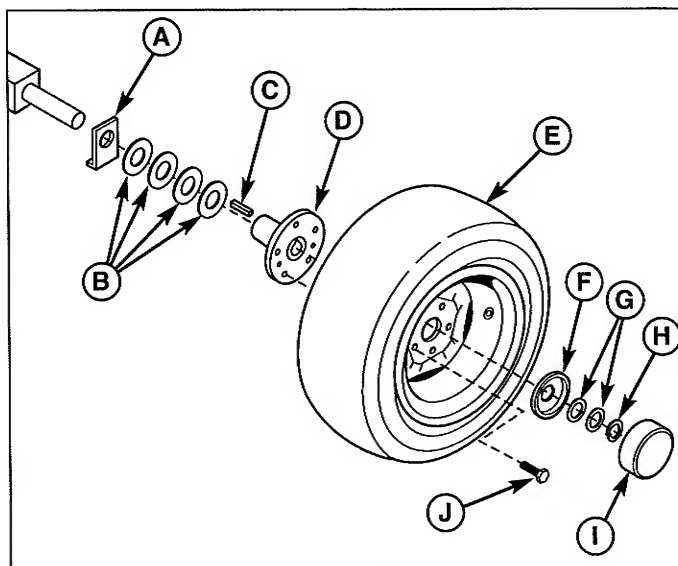

Figure 38. Rear Axle Assembly
NOTE: Your axle assembly may differ slightly from the assembly pictured: the quantity of washers (G, Figure 38) may be one or two. This is adjusted on a tractor by tractor basis during assembly to allow a small amount of axle end-play.
4. Remove the wheel bolts (J, Figure 38) and wheels (E).
5. Remove the plastic hub cap (I).
6. Remove E-ring (H) using a screwdriver.
7. Remove the washers (G), hub cap retainer (F), and wheel hub (D). Remove the key (C).